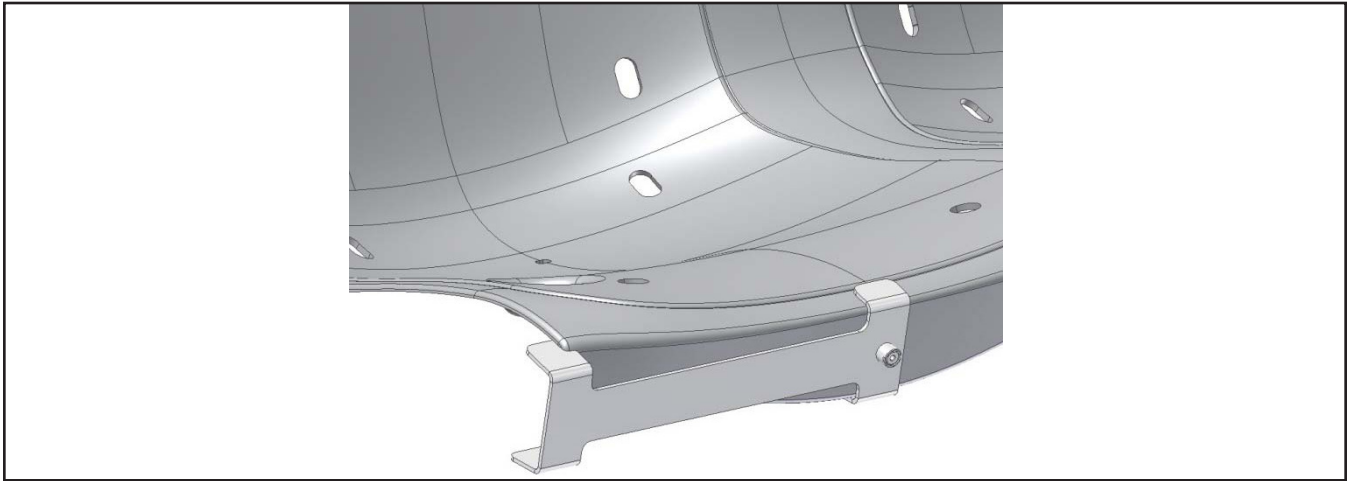

Figure 3 - Drilling Jig N69444
- 1.6. Use the drilling jig, N69444, in order to locate the center of the hole to be drilled. Drill a 1/8" (3 mm) pilot hole. See Figure 3. The same drilling jig is to be used for the holes on both seats.